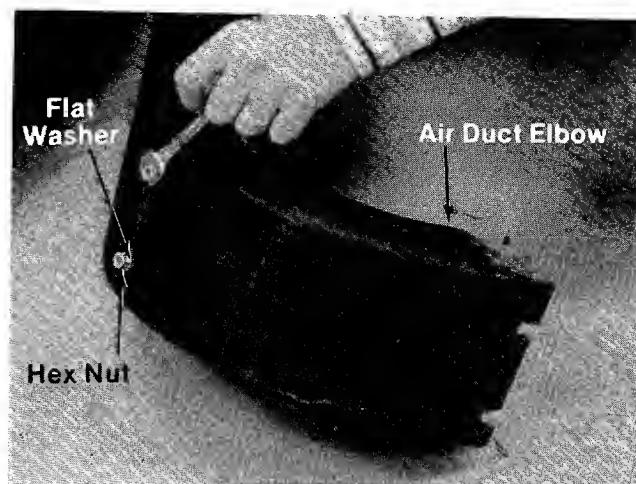

FIGURE 2
3. Insert studs of air duct liner through holes in air duct. Thread on two (2) flat washers (C) and hex nuts (B) several turns—**DO NOT TIGHTEN**. See figure 2.